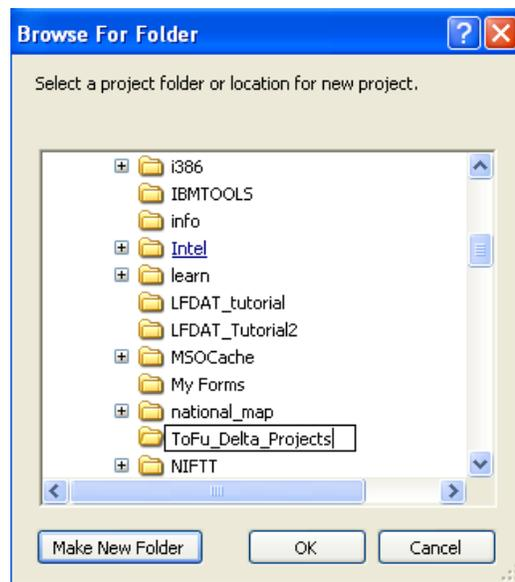

Figure 6-3. Use dialog box to create a project folder.
- The following **Browse For Folder** dialog box will open. Use this dialog box to select the project folder (fig. 6-3).